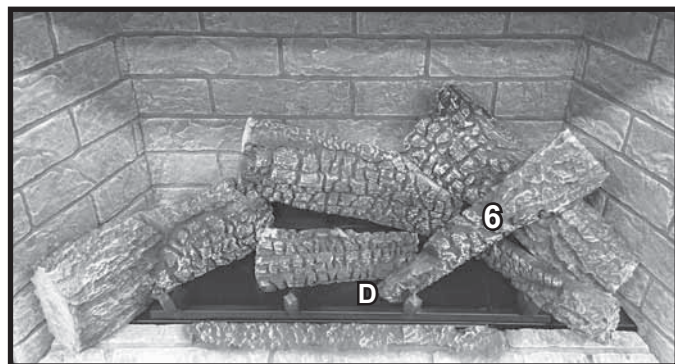

Figure 35. Log #6 Installed
**LOG #6:** Place the burnout tip of log #6 against pin D and the end of tine #3. Place the bark end in the notch on log #3. See Figure 35.